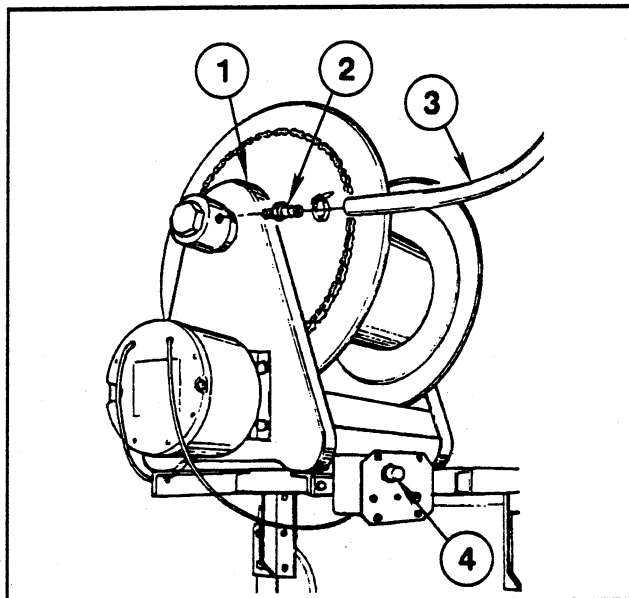

**FIG. 2**
1. Hand thread the male hose connector into the connecting tube on the Reel Shaft. See FIG. 2.